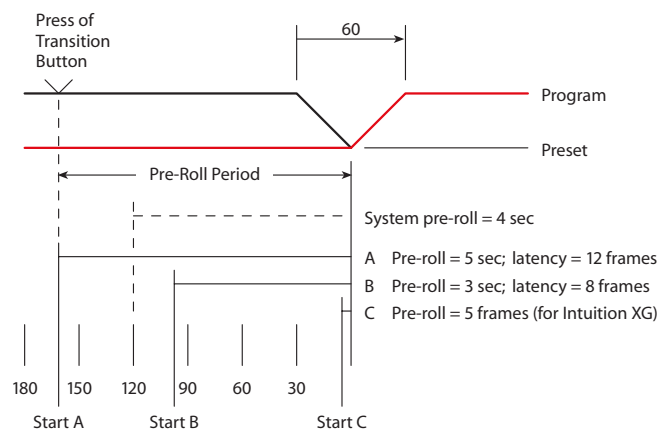

Fig. A-2: Pre-Roll Timing
The pre-roll period is calculated in relation to the point at which new video appears on the program bus. In a V-fade, for example, that is in the middle of the transition. (See Figure A-2, following.)
- 1 A source's effective pre-roll period *elapses* at the first appearance of that source's video for that transition, and typically **not** at the start of the transition. See Figure A-2.